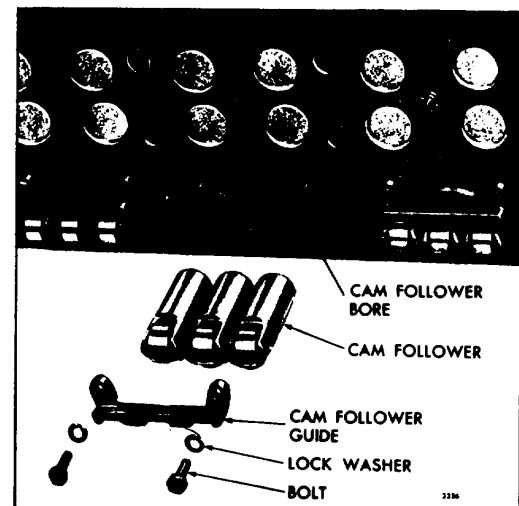

Fig 2. - Cam follower and Guide Location
1. Rest the cylinder head on its side and remove the two bolts and lock washers securing the cam follower guide to the bottom of the cylinder head (Fig. 2). Remove the guide.